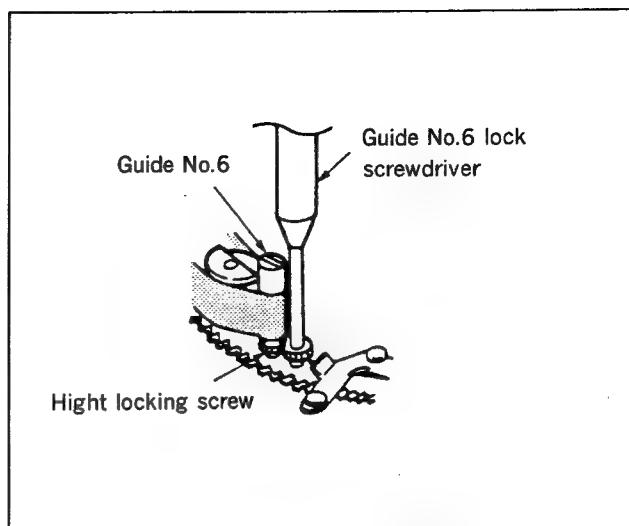

Fig. 6-5-3 Guide No.6 height adjustment
1. Rotate the Guide No.6 lock driver in counter-clockwise direction to loosen the locking screw of Guide No.6. (See Fig.6-5-3.)